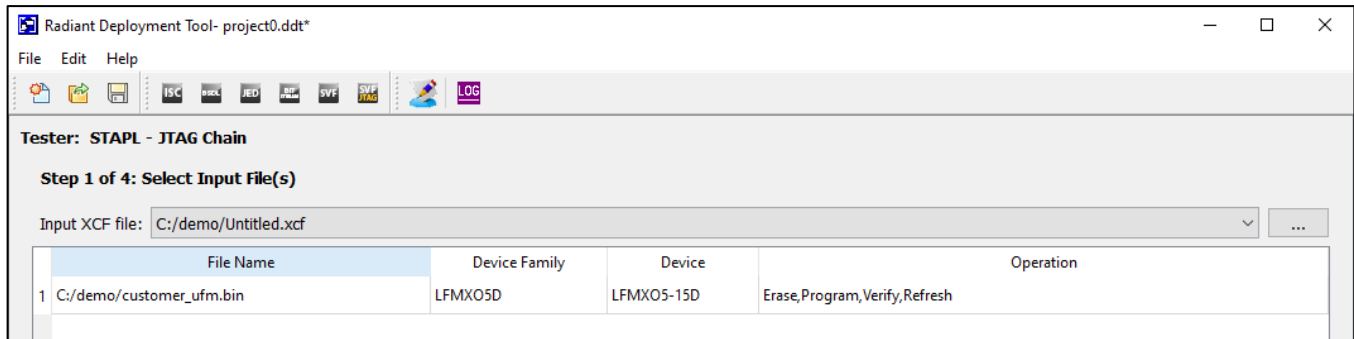

Figure 3.10. Input XCF File
4. Select the **.xcf** file that was previously generated by the Radiant Programmer in the **Input XCF file** field as shown in Figure 3.10. Click the **Next** button to proceed.